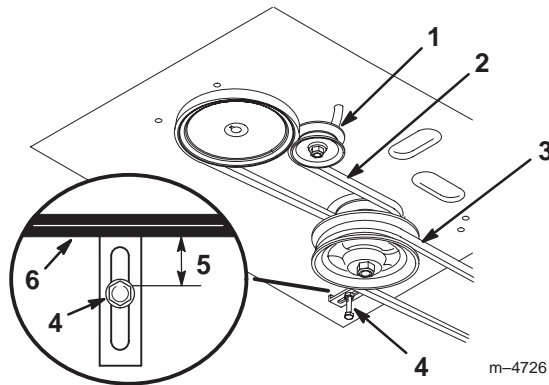

Figure 39
4. Remove the mower belt (Fig. 39).
5. Loosen the pivot bolt enough to slide the idler pulley in the slot and remove the traction belt from the engine and the drive pulleys (Fig. 39).
6. Install the new traction belt around the engine and the drive pulleys (Fig. 39).
7. Slide the idler pulley in the engine frame to tension the traction belt (Fig. 39).
8. Install the mower belt (Fig. 39).
9. Check the belt guide under the engine frame for the proper adjustment (Fig. 39).
4. Remove the idler pulley and the worn belt (Fig. 39).
13. Check the belt guide under the engine frame for the proper adjustment (Fig. 39).